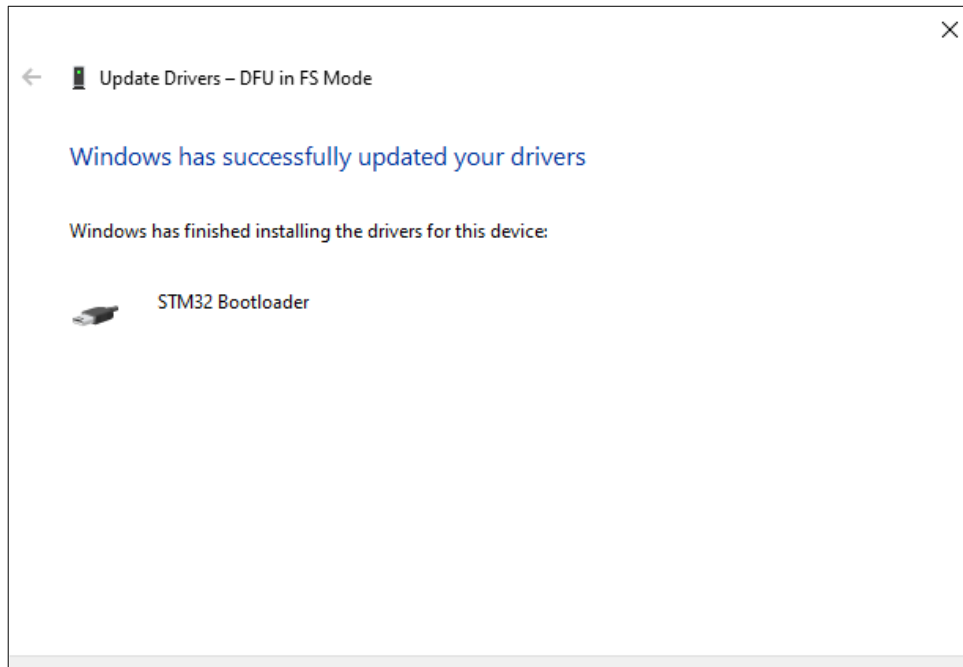
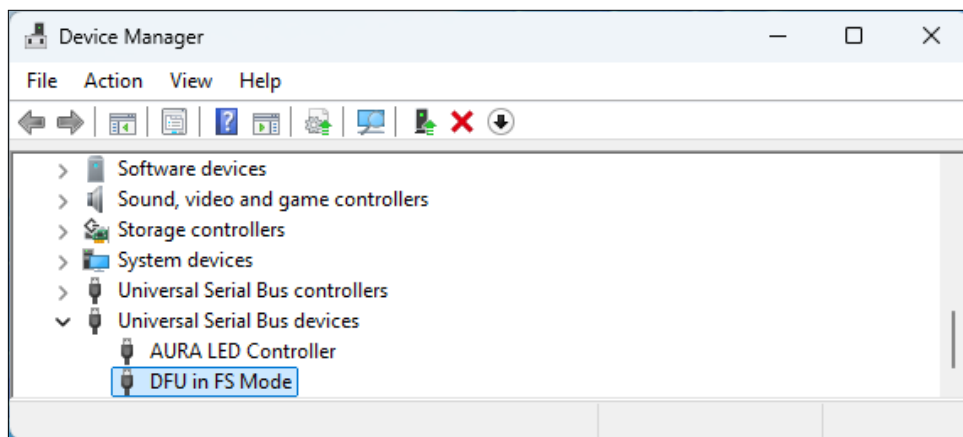

Figure 24: The STM32 Bootloader driver has been installed successfully.
Figure 25: The ScreenLinq device in the *Firmware update mode* has been correctly recognized by the Windows 11.
- 5 The driver should now be installed successfully (see Fig. 24 and Fig. 25).